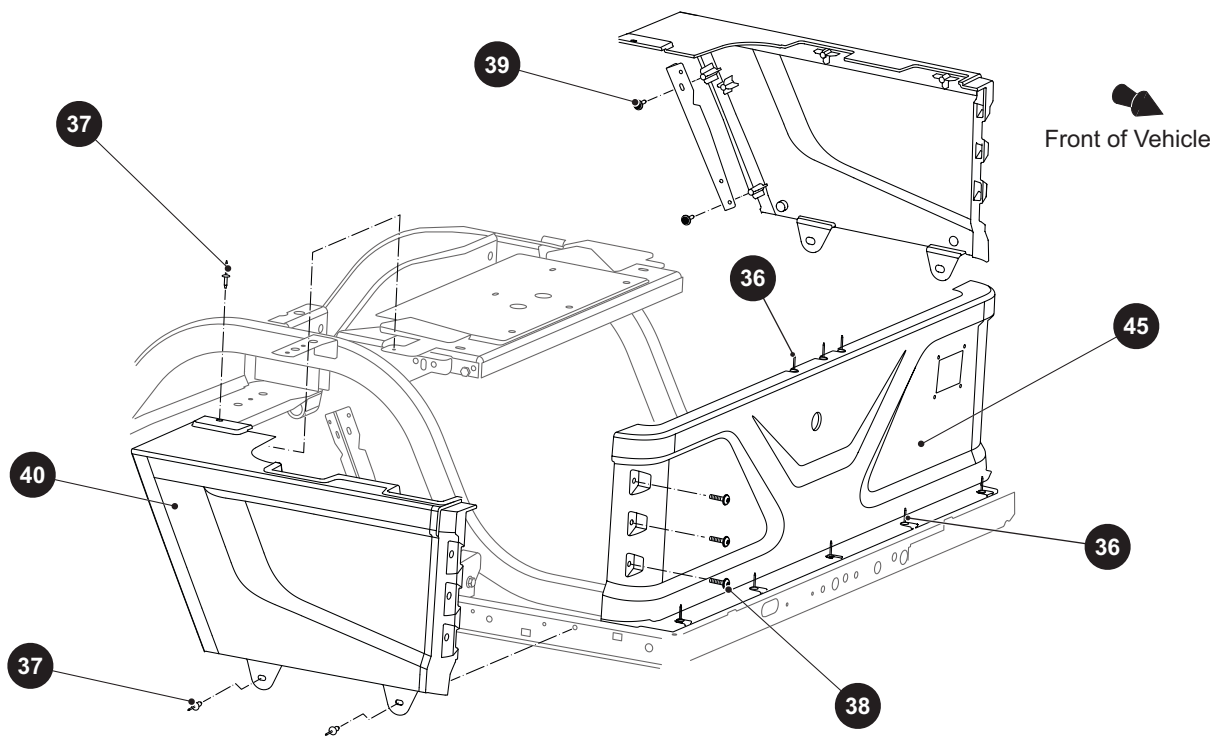

Figure 9 Seat Wrap
1. Drill out the rivets (36) securing the top of the seat wrap front (45) to the frame and the bottom to the floor (Ref. Figure 9).